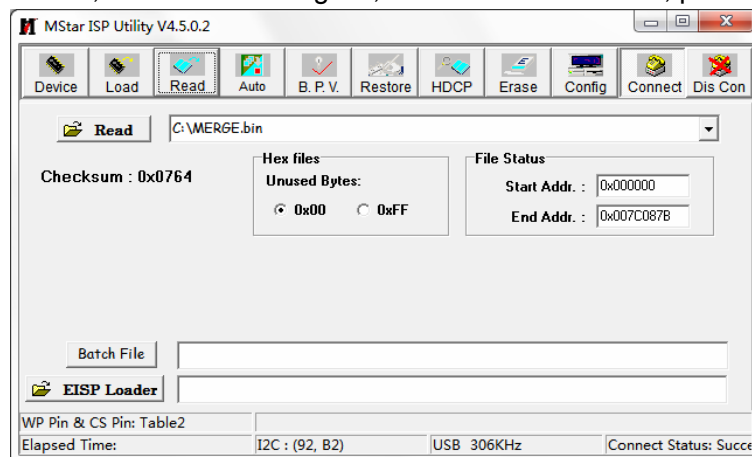

Fig. 4 Burning file
- d) Press menu **“Read”**, select the burning file, such as **“MERGE.bin”**, please refer to Fig. 4;